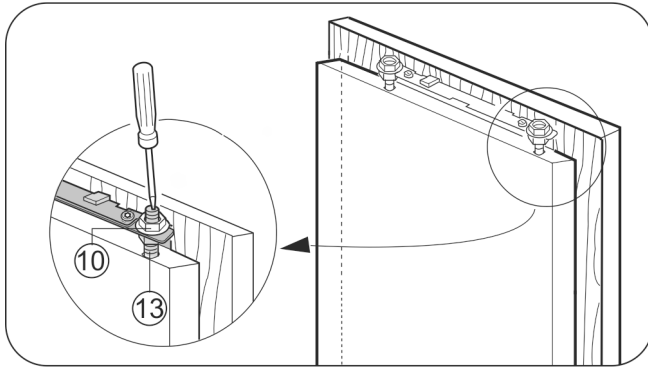

Fig. 22
- ▶ Tighten lock nuts Fig. 22 (10) with a no. 13 Allen key, making sure you counterhold the adjusting bolts Fig. 22 (13) with a screwdriver.